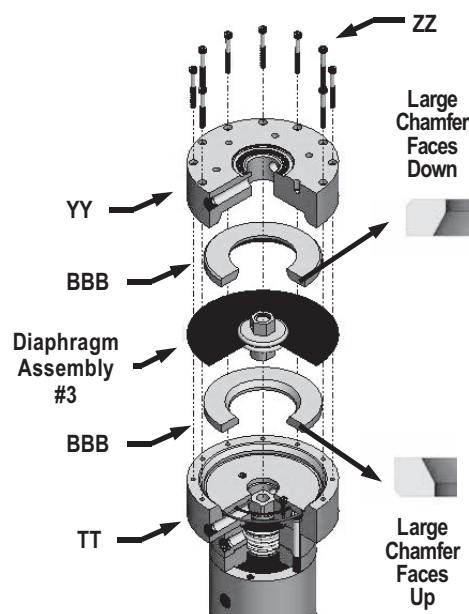

Figure 31
C. For a High Gain Pilot (Figure 31), follow Step 50A, except, add the High Gain Rings (BBB) on both sides of Diaphragm Assembly #3. Take special note of the orientation of the chamfer on each of the High Gain Rings (BBB) shown in Figure 31. Move to Step 51.